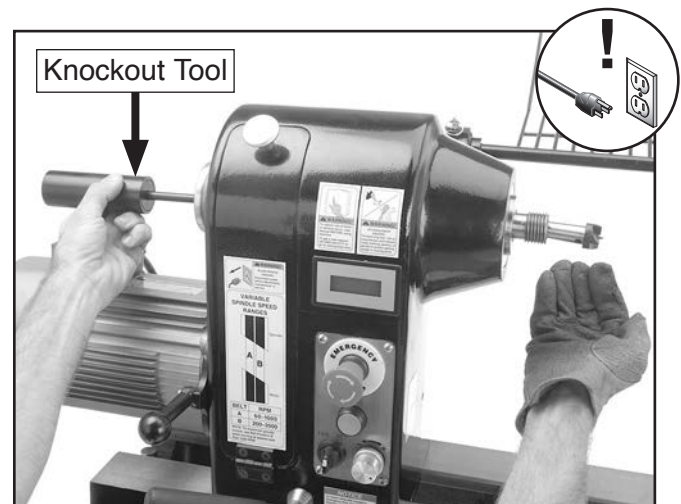

Figure 58. Example of removing headstock center with knockout tool.
3. Insert knockout tool through outbound end of spindle and firmly tap back of center, catching it as it falls (see **Figure 58**).